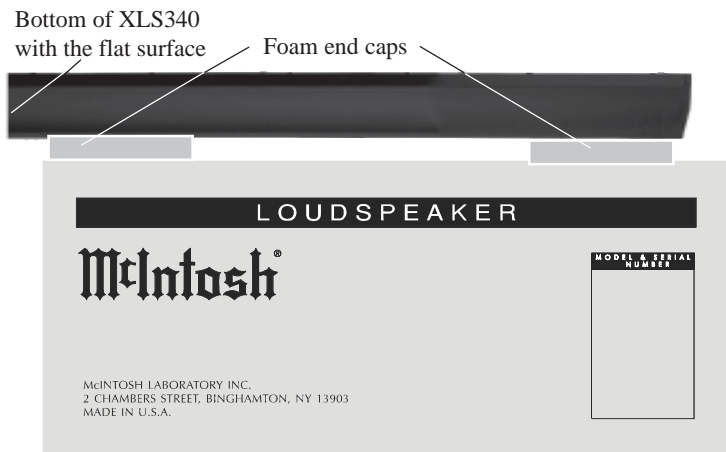

Figure 3
- Place the Loudspeaker System, with the front facing up, on foam end caps located on top of the shipping carton, with the bottom of the XLS340 overhanging the end of the shipping carton. Refer to figure 3.